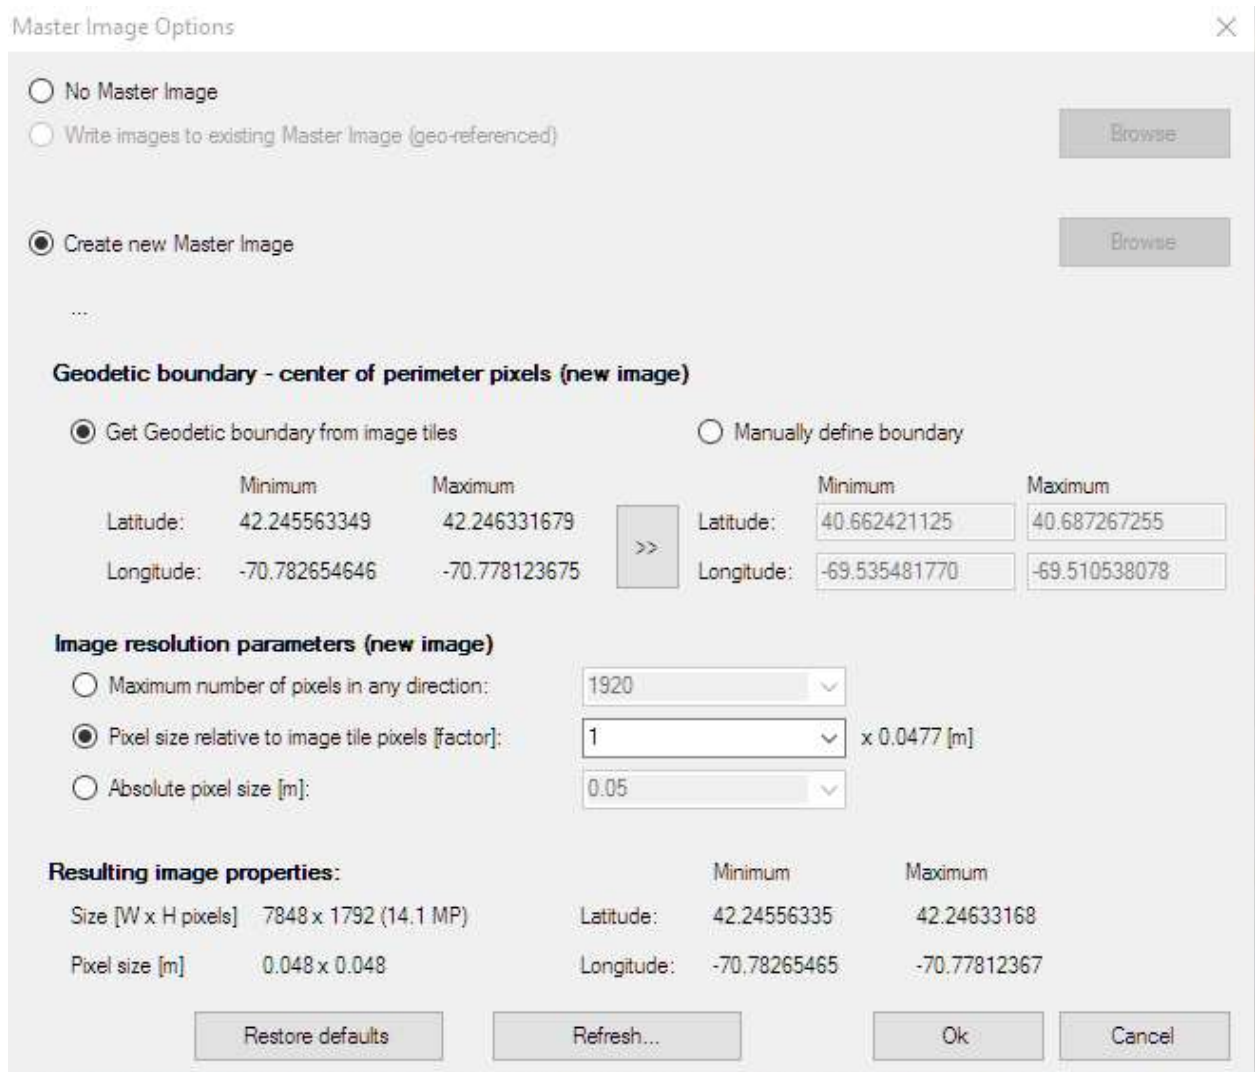

Figure 4-6. Master Image Options.
- Click on the Master Image Settings button. Use the settings in Figure 4-6.